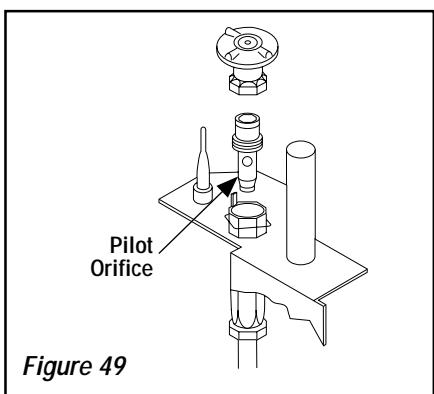

Figure 49
Step 6. Refer to **Figure 49** and remove the pilot hood assembly to access the hexed pilot orifice. Remove and replace the orifice with the one provided with the kit.